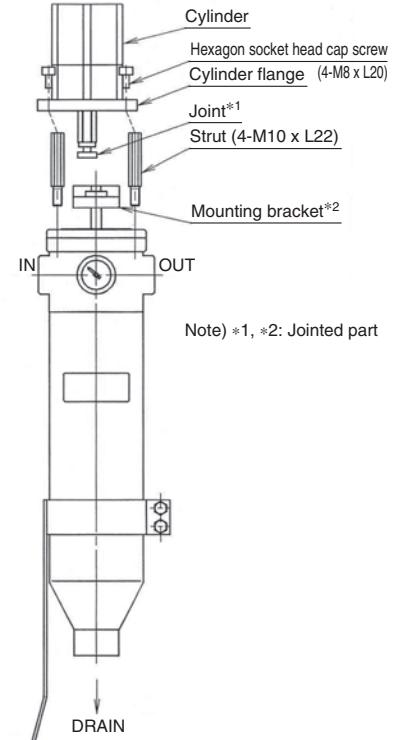

Fig. 2
- 2-2. Remove the cylinder flange fixing screws (four M8 hexagon socket head cap screws), and remove the entire body of the cylinder. [Slide the entire body of the cylinder in the horizontal direction, and remove the cylinder from the joint. See Fig. 2]
- 2-3. Remove the four struts. [See Fig. 2]